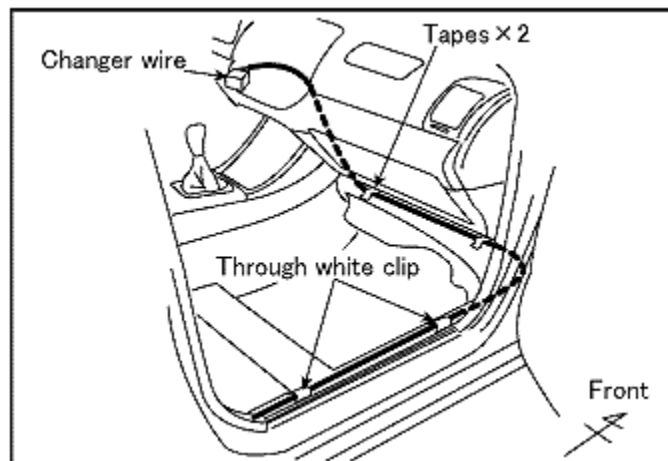

Figure L1
5. Continue to route the harness to the B pillar and place harness through white clips. (Figure L1)
6. Take up slack and place tape on harness in positions shown. (Figure L1)